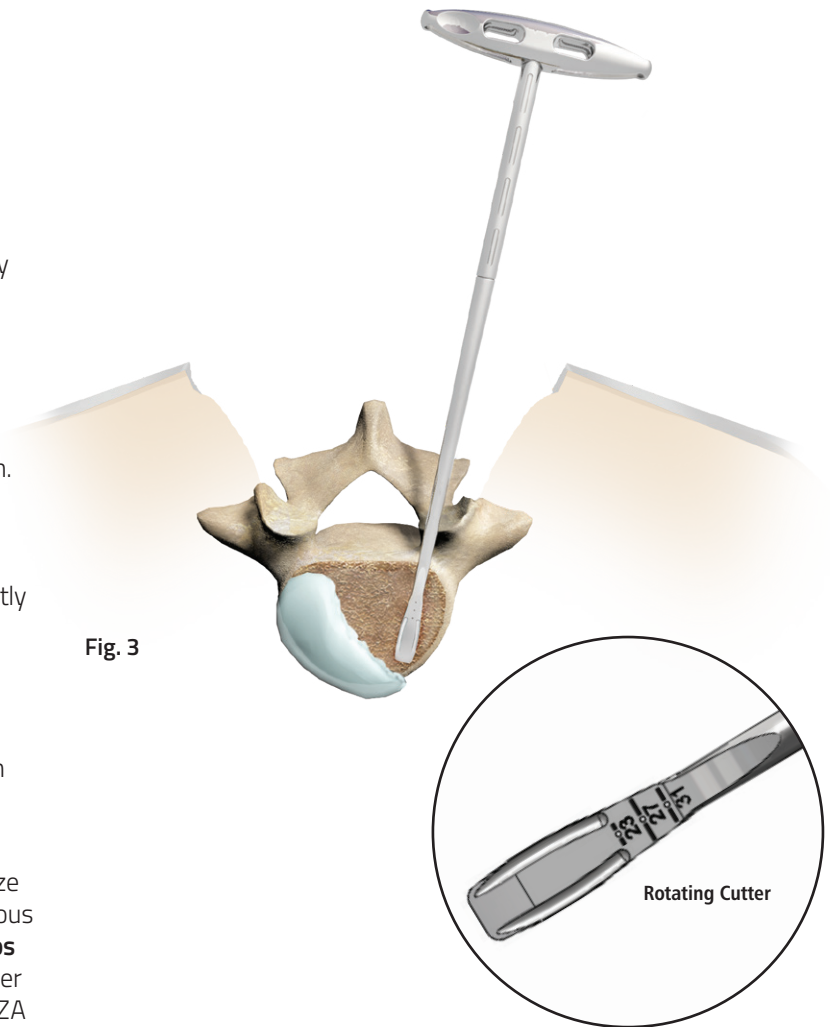

Fig. 3
**(Fig. 3)** The Rotating Cutters in the FORZA Discectomy Case are designed for safety with a blunt tip and cutting sides.